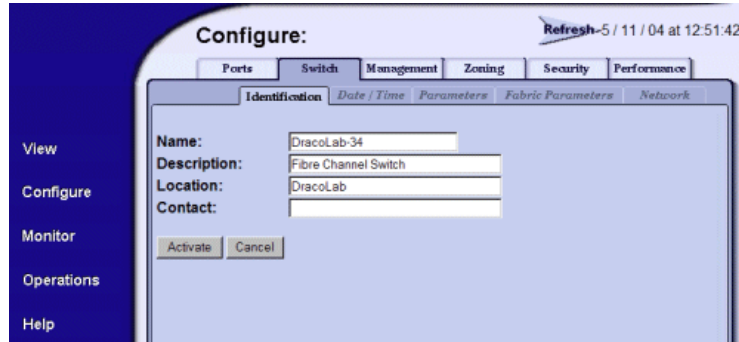

Figure 17: Switch page—Identification tab
1. At the Configure window, click the **Switch** tab. The **Switch** page displays with **Identification** tab selected, as shown in Figure 17.